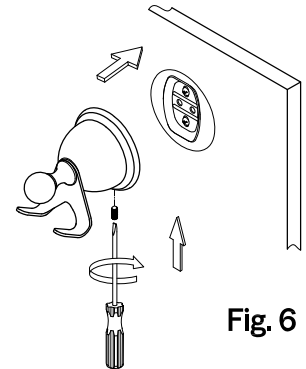

Fig. 6
- Step 5.** Place the unit, with the small hole in the base underneath, over the mounting plate by tightening the slotted set screw with a flathead screwdriver until the base is tightly fixed (Fig 6).